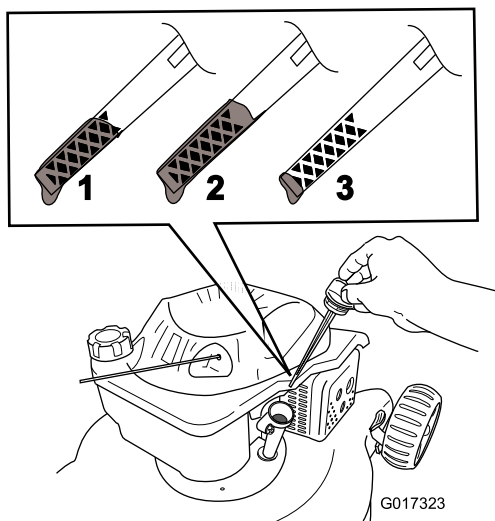

Figure 10
2. Remove the dipstick (Figure 10).
5. Read the oil level on the dipstick (Figure 10).